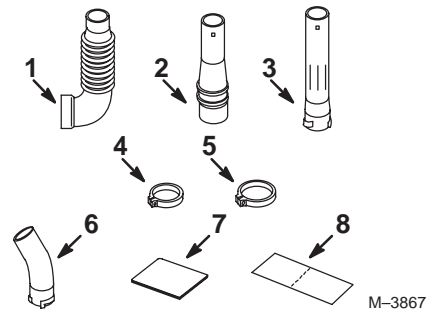

Figure 1
1. Locate and identify all the components (Fig. 1)